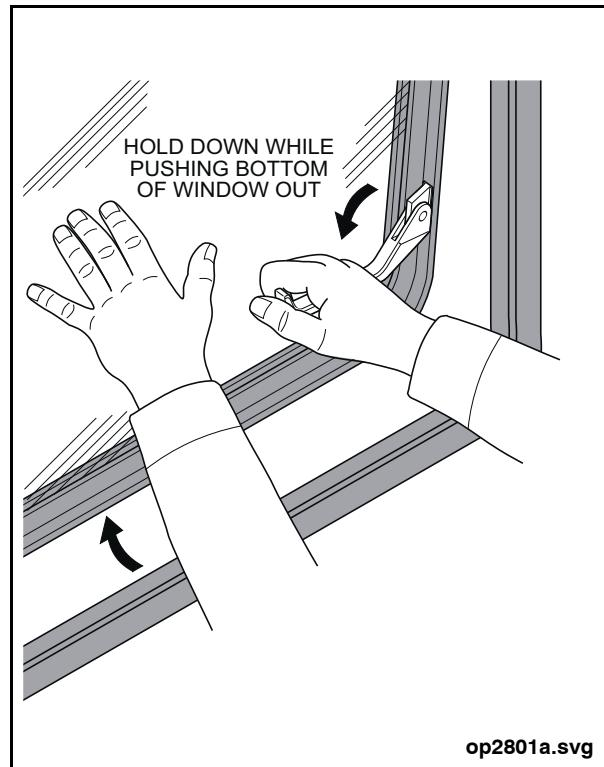

Fig. PM-20: Window Emergency Release
1. Activate emergency release system by pulling the emergency release handle and pushing outward on the window. See "Fig. PM-20: Window Emergency Release" on page 48.